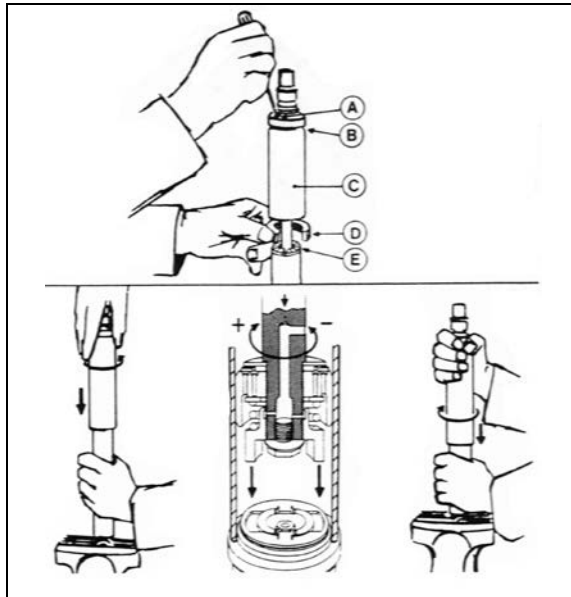

FIGURE 23: DAMPER
To adjust opening and closing cycle speed on damper (Figure 23):
2. Fully close the damper while turning the dust cap or piston rod slowly CCW until it is felt that the cams of the adjusting nut engage in the recesses of the foot valve assembly (Figure 23).
In figure 23, if there is an indentation (B) in the dust cap (C) and the cover shows two holes (A), the damper is fitted with a bump rubber (D). If so, fully extend the damper and insert a round bar or screwdriver through the holes. Push the bump rubber down and remove. Remove the split plastic collar (E) (if fitted) from the piston rod.
Where a bump rubber was installed, refit same inside the dust cap and by fully closing the damper, the rubber will seat again at top of the dust cap. Refit the split plastic collar E (Figure 23).